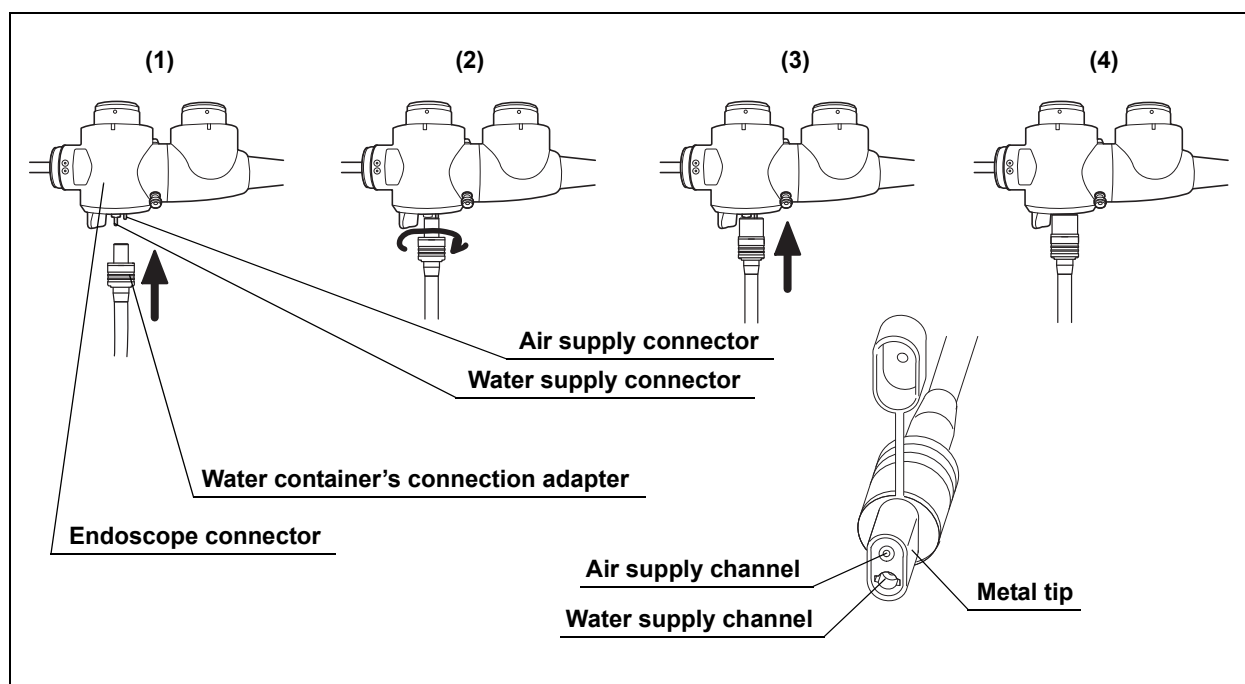

Figure 3.16
4. Place the water container's water supply channel onto the water supply connector on the endoscope connector at an angle of 90° and push it in until it stops (see Figure 3.16 (1)).
5. Turn the water container's connection adapter 90° clockwise to align the air supply channel with the air supply connector of the endoscope connector (see Figure 3.16 (2)).
6. Push the water container's connection adapter again until it stops (see Figure 3.16 (3)).
7. Confirm that the water container's connection adapter fits properly and that it cannot be rotated (see Figure 3.16 (4)).